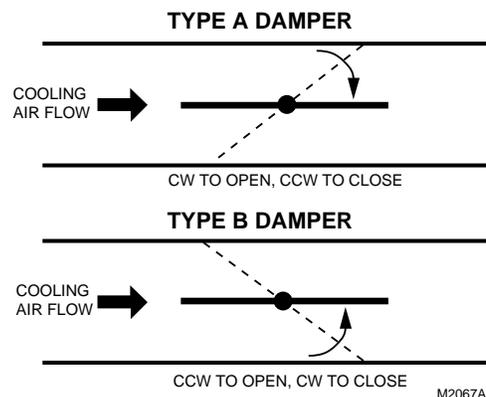

Fig. 3. Determining direction damper shaft rotates when opening.
2. Direction the damper shaft rotates to open the damper (cw or ccw). See Fig. 3.